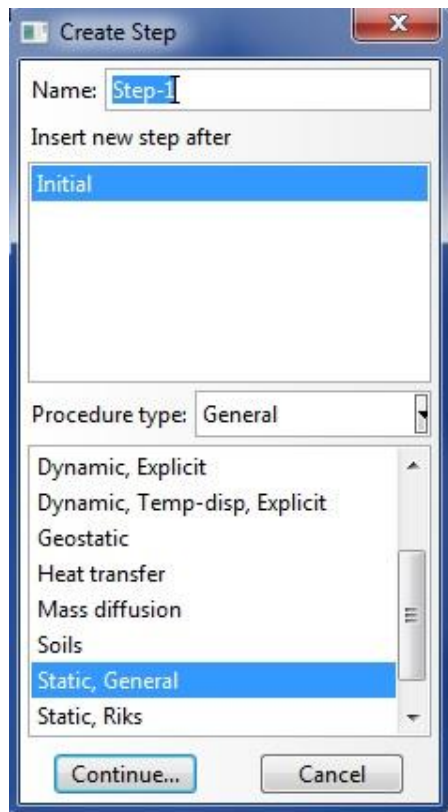
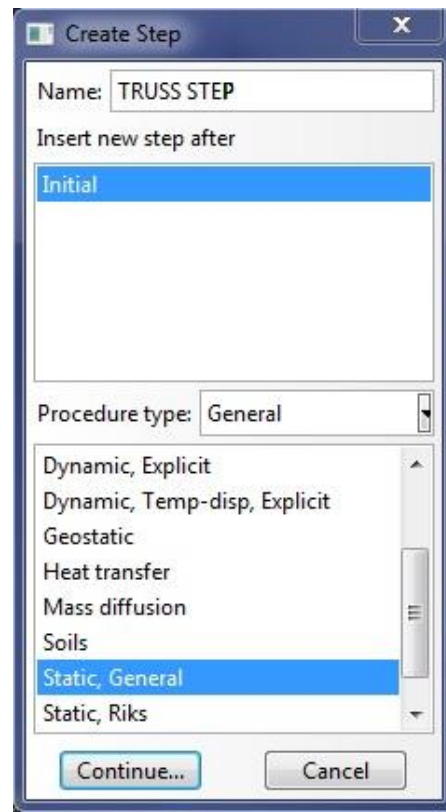

Figure 20a. Create Step Dialog Box
Figure 20b. Create Step Dialog Box (TRUSS STEP)
- In the model tree, double click the **Steps** icon. The **Create Step** dialog box will appear (Figure 20a). Create a **Name** for the step called **TRUSS STEP**. Under **Procedure type** choose **General > Static, General**. The **Create Step** dialog box should look identical to Figure 20b.